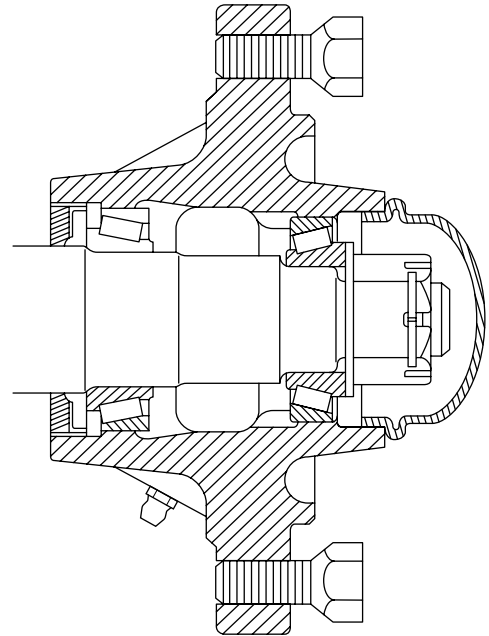

Figure 35
- Remove the hub cap, cotter key, slotted nut, and washer (Figure 35).